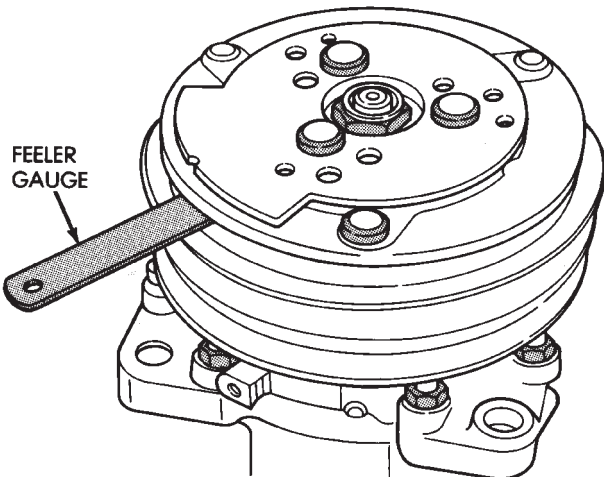

Fig. 28 Check Clutch Air Gap
(8) Check the clutch air gap with a feeler gauge (Fig. 28). If the air gap does not meet the specification, add or subtract shims as required. The air gap specification is 0.41 to 0.79 millimeter (0.016 to 0.031 inch). If the air gap is not consistent around the circumference of the clutch, lightly pry up at the minimum variations. Lightly tap down at the points of maximum variation.